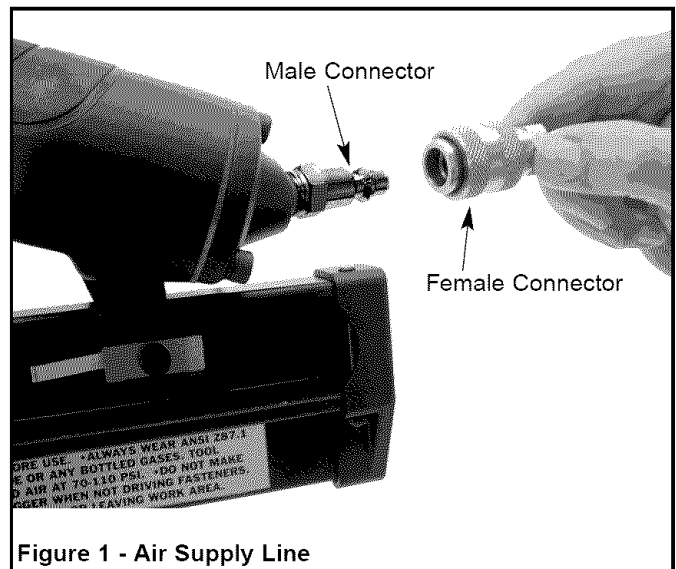

Figure 1 - Air Supply Line
Refer to Figure 1.
- Never connect a female quick-disconnect coupling to the tool side of air line connection. A male, free-flow coupling should be connected to the tool side of air line connection (see Figure 1).